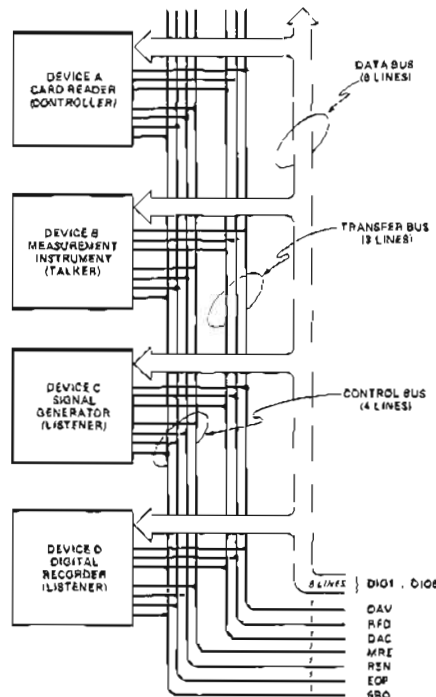

Figure 1. Typical Bus System Communication Network.
**Basic Network:** The system accommodates up to 15 devices (i.e., instruments, data peripherals, etc.) interconnected over one contiguous bus interface. Each device is fitted with an interface connector and interconnected to other devices via a single passive cable. This interface system utilizes an 8-line Data Bus, a 3-line Transfer Bus and 4 additional Control Bus lines to manage the flow of information over the Data Bus and Transfer Bus. Figure 1 illustrates this communication network. Fifteen assigned signal lines, one reserved signal